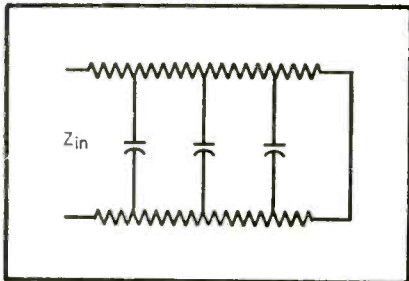

Figure 3
Plot of R'/R_{dc} versus fC_0R_{dc} , where C_0 takes the place of C in Figure 3.
From a table of complex hyperbolic functions it is possible to compute values of $Z' \phi$ for various frequencies using equation (2). It is then simple to express an R' and C' in parallel at each frequency. That is, for each w , there is an R' and C' which in parallel are equivalent to the resistor at that particular frequency. A plot of R'/R_{dc} versus f , then provides the behavior of the effective resistance with frequency. It is possible to obtain a general curve for any resistor by plotting R'/R_{dc} versus f/CR_{dc} , where f = frequency and C is the capacitance per unit length of rod; (Figure 3). In this instance, C is the capacitance of the isolated rod. Hartshorn³ has suggested